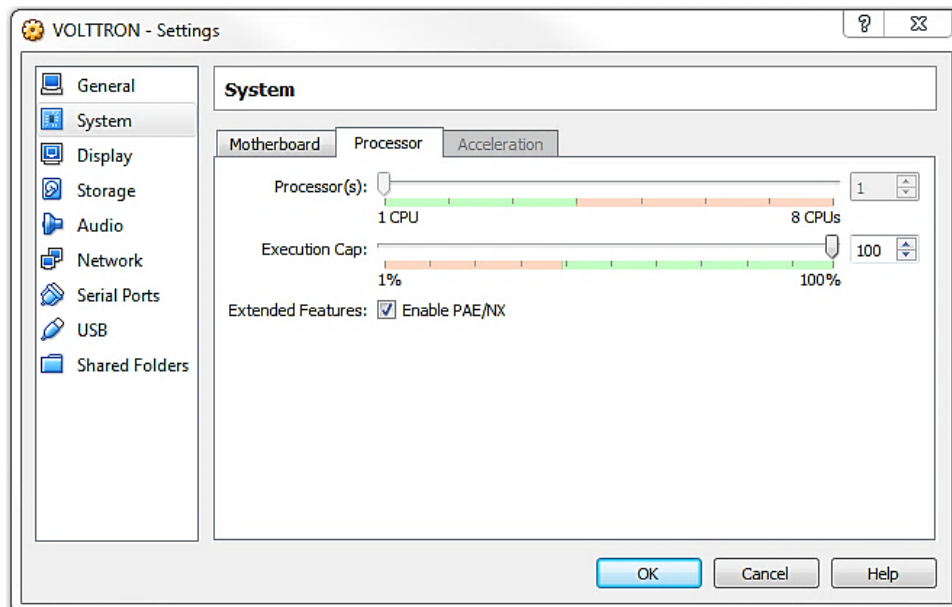

Figure 11: Selection of processor parameter
9. With the newly created VM selected choose Machine from the VirtualBox menu in the top left corner of the VirtualBox window; from the drop down menu choose Settings. In the system menu go to the Processor tab and Enable PAE/NX (Figure 11). Choose OK.